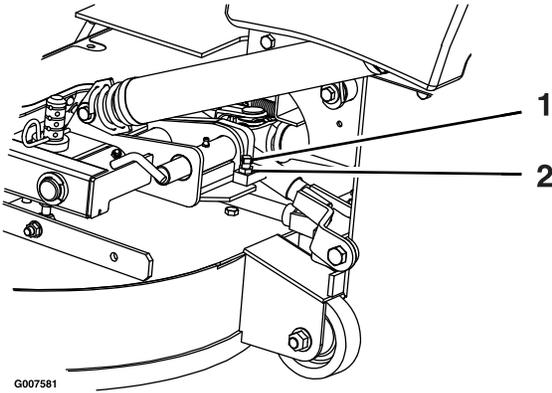

**Figure 60**
3. Loosen the 6 door hinge nuts (Figure 60).
4. Open the door and place a 3/8 inch (9.5 mm) rubber strip or 3/8 inch (9.5 mm) diameter hose between the hopper and the hopper door (Figure 60).